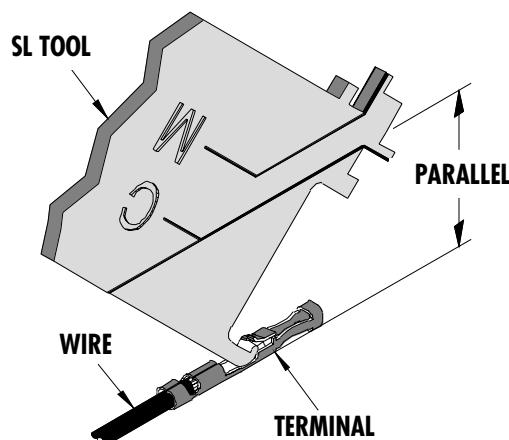

Figure 3
2. Gently pivot the SL tool towards the I.D. slots until the tang is bent up into original position and the scribe line is parallel to the body of the terminal see Figure 3. Pull out the SL tool and the terminal now can be re-inserted into the housing.